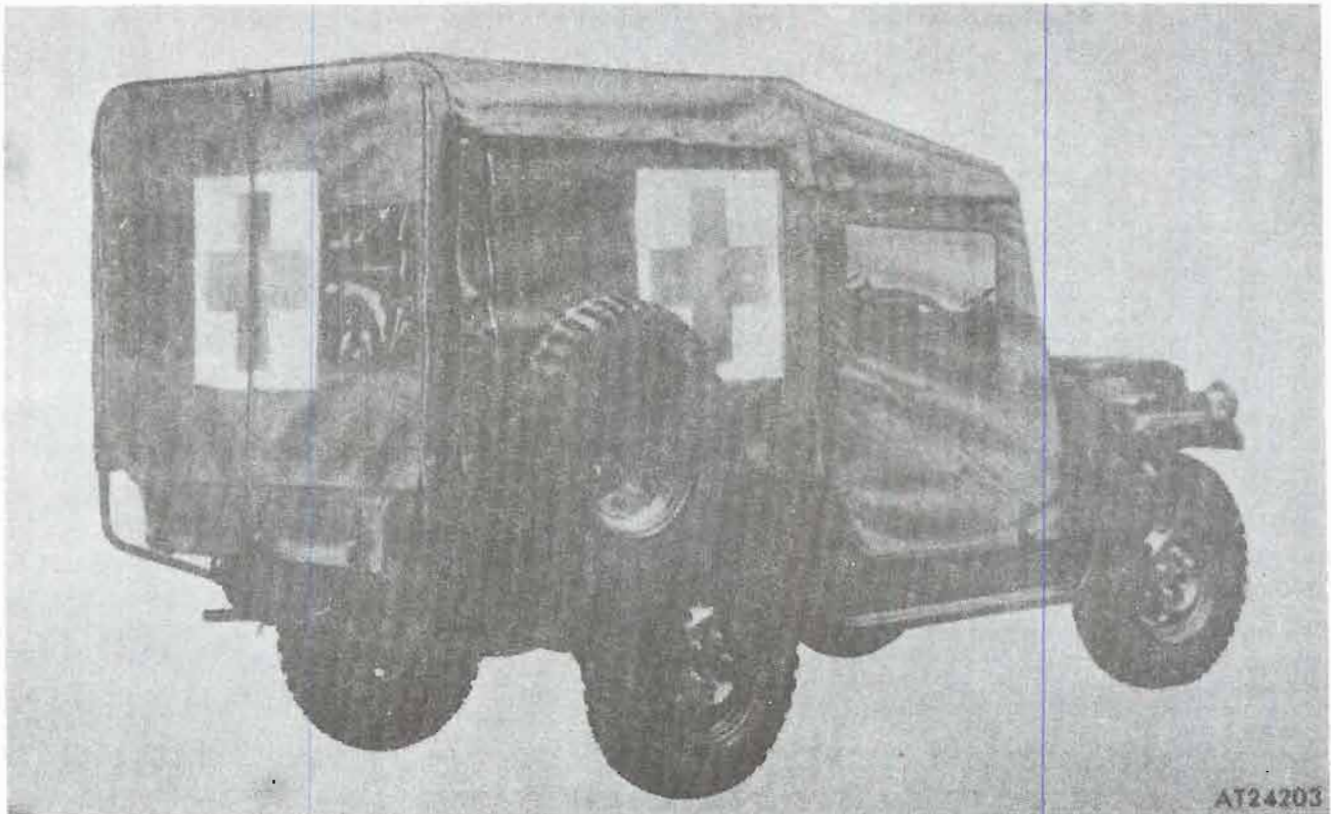

Figure 1-3. Frontline ambulance, 4 x 4 1/4 ton right rear view.
c. The M718, 4 x 4 1/4 ton, frontline ambulance truck (fig 1-3) is designed to carry ambulatory and litter cases. The cargo area of the M718 vehicle is 18 inches longer than the M151 and M151A1 vehicles and 5 inches higher to accommodate litters.